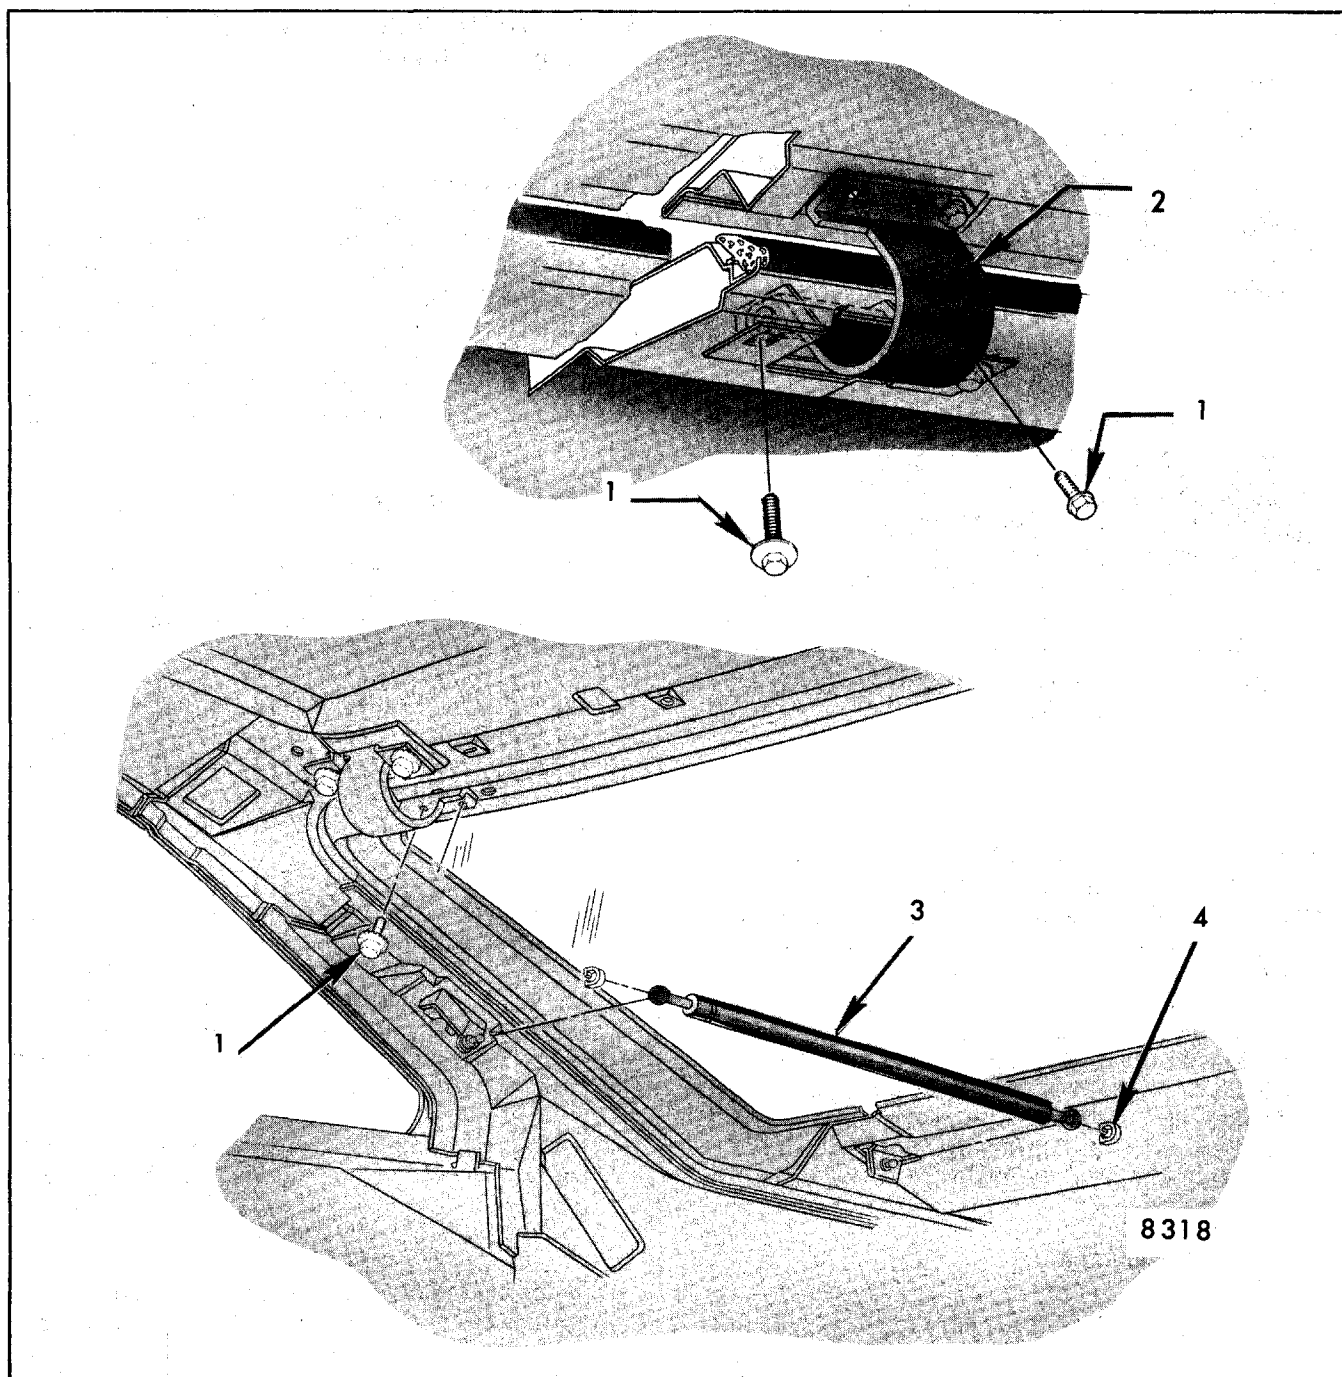

Fig. 7-12-Hatchback Lid and Gas-Operated Support Assembly Attachments
6. For "X-17" styles, mark location of hinge attachments on lid inner panel and remove lid side attaching screws from each hinge (Fig. 7-12) and remove lid.